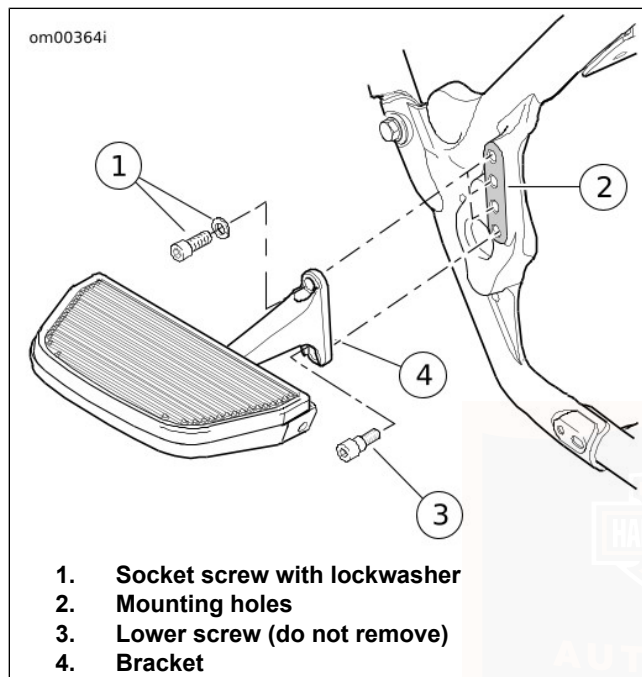

Figure 42. Passenger Footboard
1. See Figure 42. Remove socket screw with lockwasher (1) from top of footboard bracket (3).